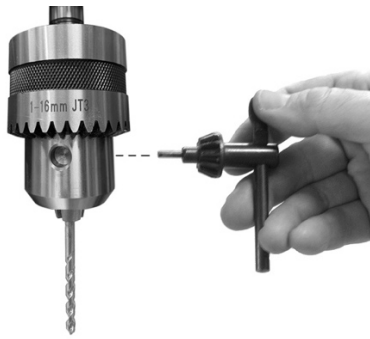

Figure 8-5
3. Turn chuck key clockwise to tighten chuck jaws. See Figure 8-5. **NOTE:** Insert chuck key into each of the three holes in the chuck and tighten to ensure tightness of each jaw.